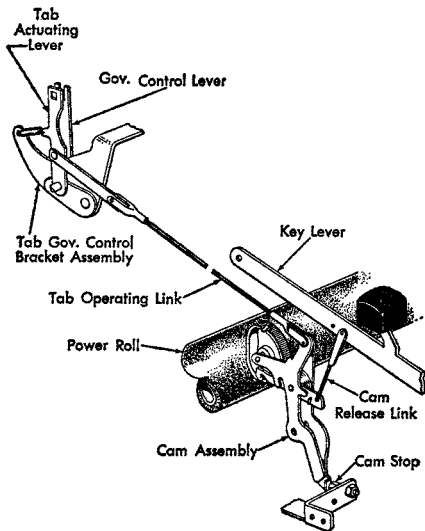

Figure 20. Tab Actuating Mechanism
3. THE CAM RELEASE LINK should be placed in the front hole of the keylever. Adjust the link to trip the cam when the keylever has completed two-thirds to three-fourths of its downward travel (Figure 20).